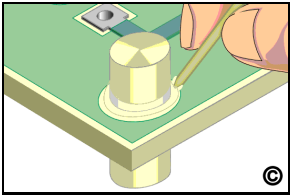

Figure 2: Place replacement dowel in position and bond with Epoxy.
7. Coat both the Rod and the hole with Epoxy and fit together. Apply additional Epoxy around perimeter of Rod. (See Figure 2). Remove excess Epoxy.